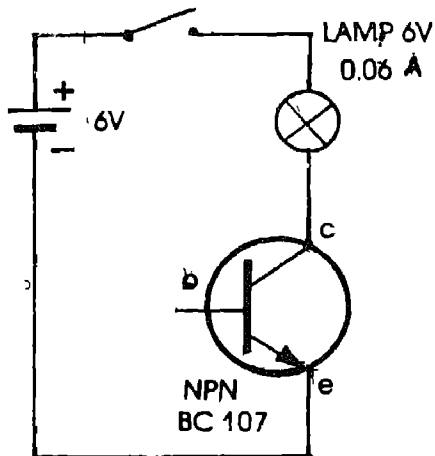

Fig. 6.3
1. Make the connections as shown in Fig. 6.3.